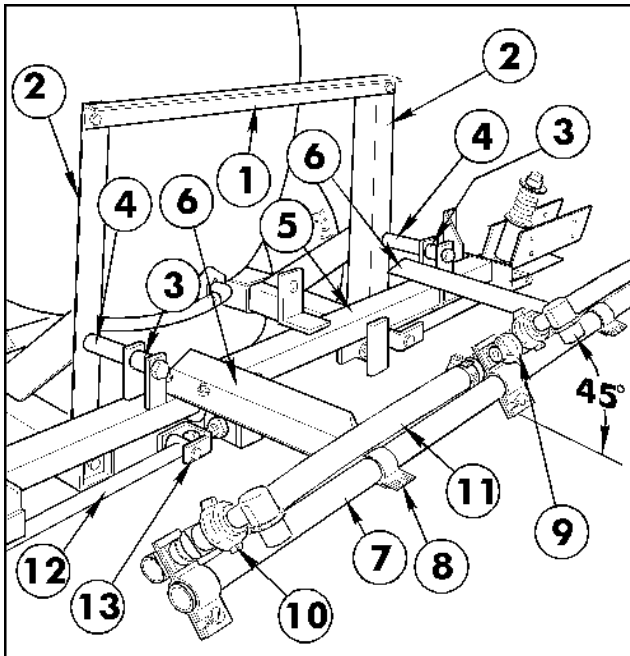

FIG. 10
3. Position the Spacer Tubes between the Boom Mount uprights and the lugs on the Main Frame Tube. Use two 1/2" x 4" hex hd cap screws and lock nuts to secure the Main Frame Tube to the uprights. See FIG. 10.
5. Position the two (2) Center Boom angles on the Main Frame and secure them to the Main Frame tube with two (2) square U-bolts, four (4) flat washers and hex nuts. See FIG 10.
6. Center and attach the Center Boom Pipe to the two Center Boom Angles with two (2) clamps, 3/8" x 1" cap screws, flat washers and lock nuts.
7. Loosely attach the Double Barb Turret Assembly in the approximate center of the Center Boom Pipe. For the most uniform spray coverage, position all Turret Assemblies as shown in FIG. 10.
8. Loosely attach Single Barb Turret Assembly to LH end of the Center Boom Pipe. Loosely attach Threaded Turret Assembly to RH end of the Center Boom Pipe. Place two hose clamps on the two 3/4" x 19" Jumper Hoses and connect the two "end" Turret Assemblies to the Double Barb Turret Assembly. Turret Assemblies should be level and spaced on 20" centers. Install 90° 3/4" Hose Barb on RH Turret Assembly. Tighten all fasteners securely (FIG. 10).
9. Attach the Strut Assemblies to the Adjustable Clevis Assemblies found on each side of the Main Frame tube with two (2) 1/2" x 2" clevis pins and two (2) 1/8" x 1" cotter pins. See FIG. 10.
14. At the adjustable clevis assemblies (FIG. 10) adjust booms to the level position by adjusting the jam nuts to the desired position, then tighten the end nuts against the Boom Frame Support member.